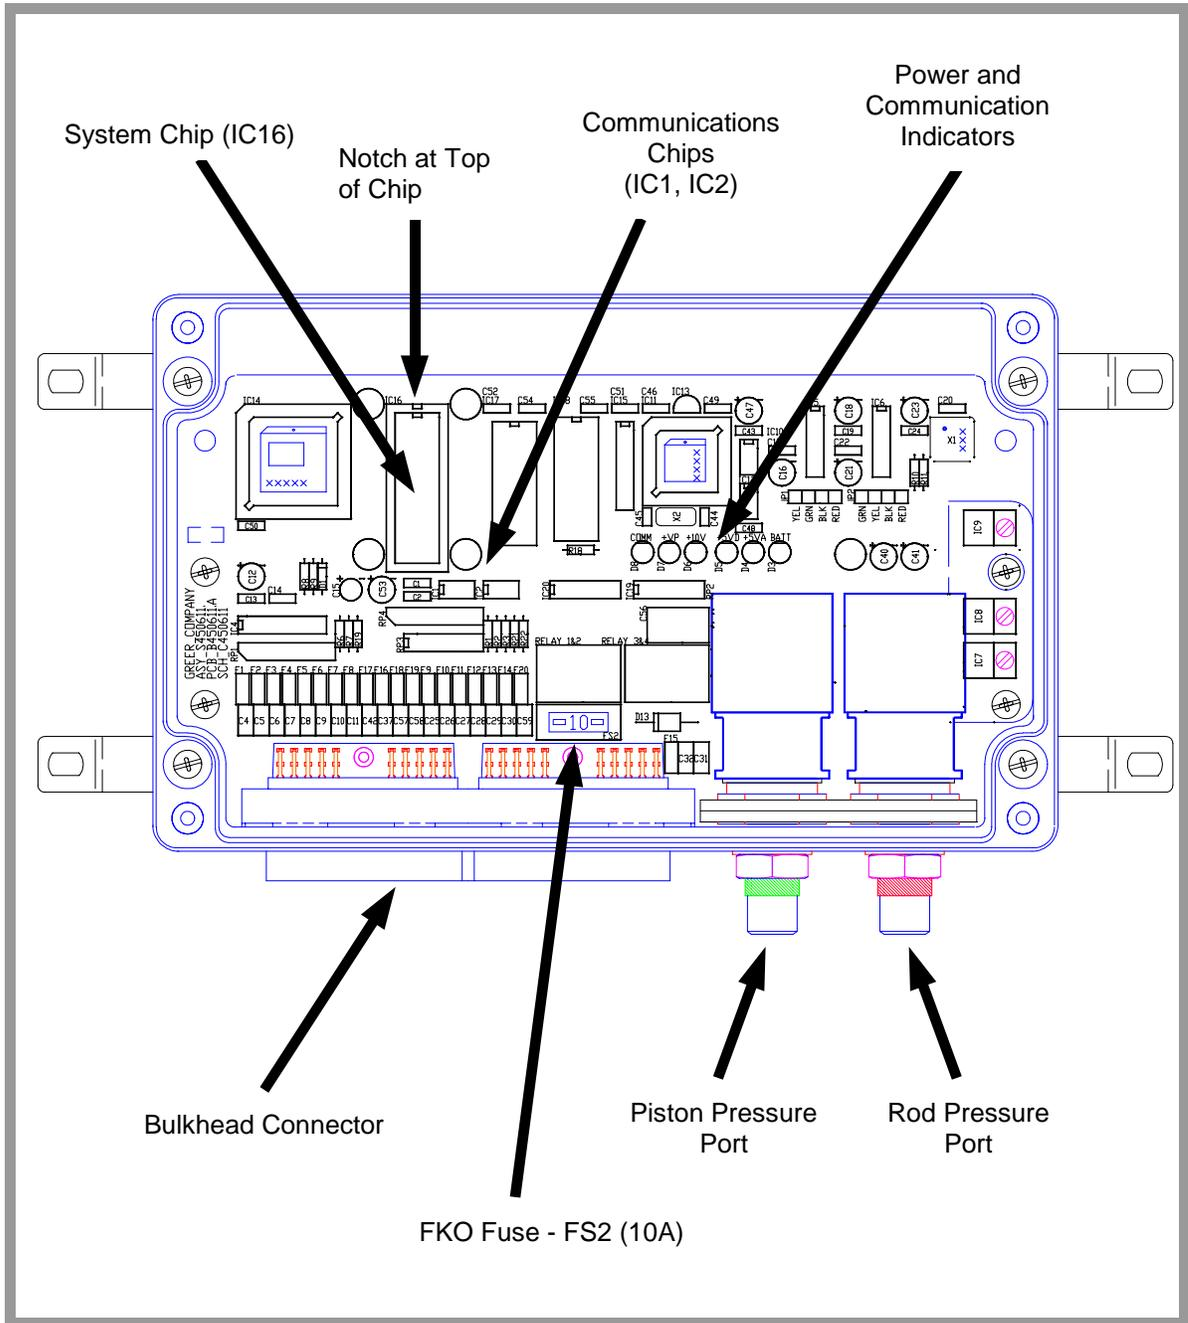

FIGURE 3.2 COMPUTER UNIT LAYOUT (LID REMOVED)
The computer unit contains a row of indicators to aid in checking power supply and communications operation within the system. Remove the lid of the computer and check these indicators. Refer to the computer unit layout in Figure 3.2.
See Figures 3.2 and 3.4 to locate the position of the COMM indicator.
The computer unit contains a REPLACEABLE FUSE, illustrated in Figure 3.2, that protects the function kickout circuit and relay contacts, in the event that a short circuit across the crane kickout solenoids occurs.
The computer unit contains a replaceable SYSTEM CHIP, illustrated in Figure 3.2.
2. Refer to Figure 3.2. Remove the chip from the computer board with a chip removal tool.
The computer unit contains two replaceable COMMUNICATIONS CHIPS, illustrated in Figure 3.2.